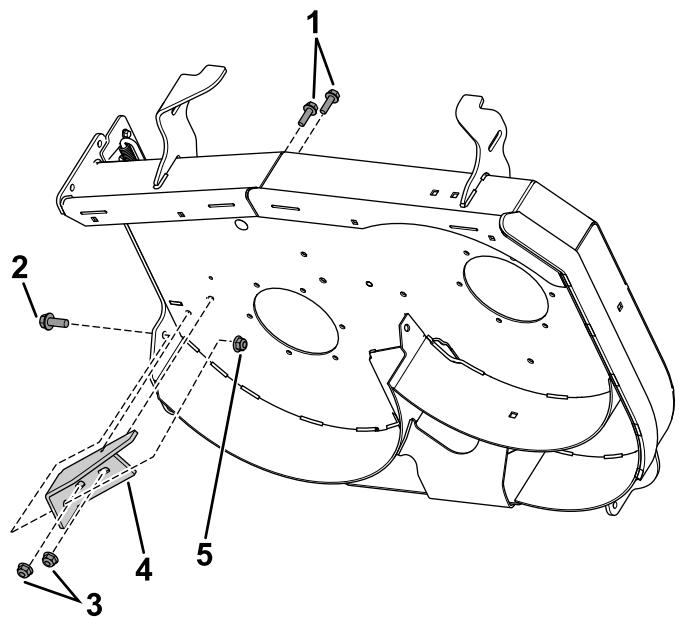

Рисунок 9
2. **For 36-inch and 60-inch decks:** Install the square-edge-discharge baffle with appropriate hardware as shown in Рисунок 9.